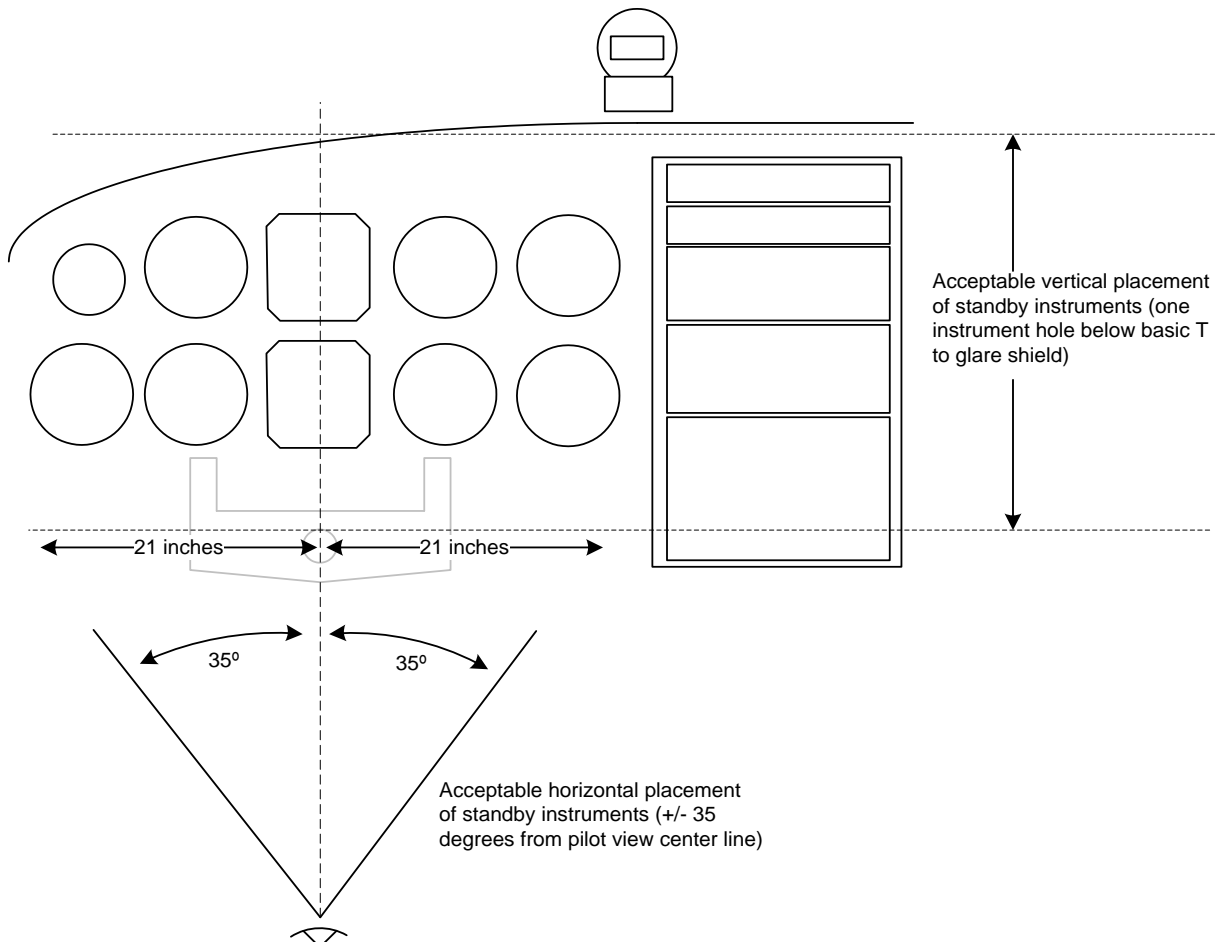

Figure 4-2: Flight Director/Backup Nav/Placard placement
Flight Director display – If the existing attitude indicator includes a flight director display then it must be relocated to a position within the pilot's primary maximum field of view in accordance with FAR 23.1321(a). The requirements are ± 35 degrees from the pilot's centerline horizontally (± 21 inches from centerline as defined by AC 23-1311-1b) to an area just below the basic T configuration to the glare shield vertically (see Figure 4-2 below). The EFD1000 E5 does not display flight director information.
The following placard is required and must be located near the EFD1000 E5 within the pilot's maximum field of view (see Figure 4-2). The placard must be in black and white (white letters on black background or black letters on white background) in a font no smaller than other placards in the aircraft and reads as follows:
4	Aircraft with Flight Director (FD) displays - Is there an acceptable location to relocate the existing FD Indicator (see section 4.4.3) in the pilot's field of view? (see Figure 4-2). -NA if no flight director.
5	Is a backup navigation indicator required (see section 4.4.5) - NA if no Backup NAV indicator is required. If a backup indicator is required, is there an acceptable location to mount or relocate a required backup NAV Indicator in the pilot's field of view? (see Figure 4-2)